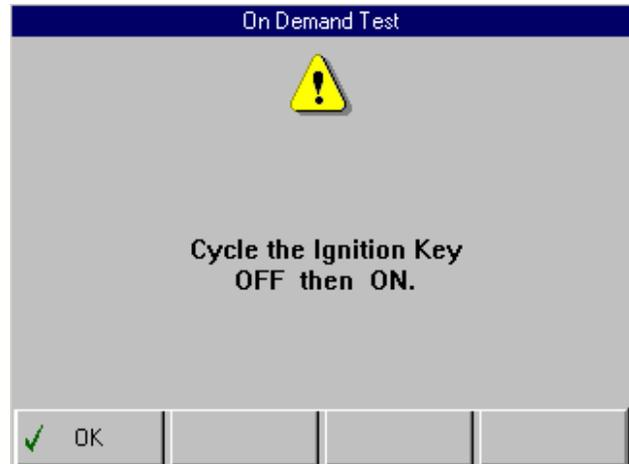

Figure 5.23: Self Diagnostic Test Instruction Screen
- 4 Wait for the test to start. While the test runs, a timer counts down the time remaining for the test. When the test is complete, an instruction screen (similar to Figure 5.23) may appear.